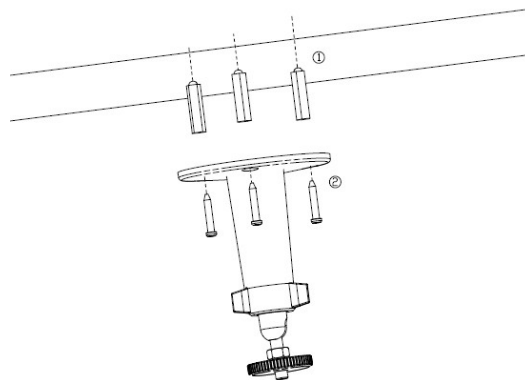

Figure 2.1 1 Install the mounting bracket
1. Select the mounting method, and mount camera bracket according to the mounting method. For cement wall, first you need to mount expansion screw (the mounting holes of it needs to be the same with bracket), then mount the bracket, shown as figure 2.1. For the woodiness wall, then skip the first step, and mount the bracket with self-tapping screw. Please note that the mounting wall needs to sustain the weight 3 times heavier than the sum weight of camera and bracket.